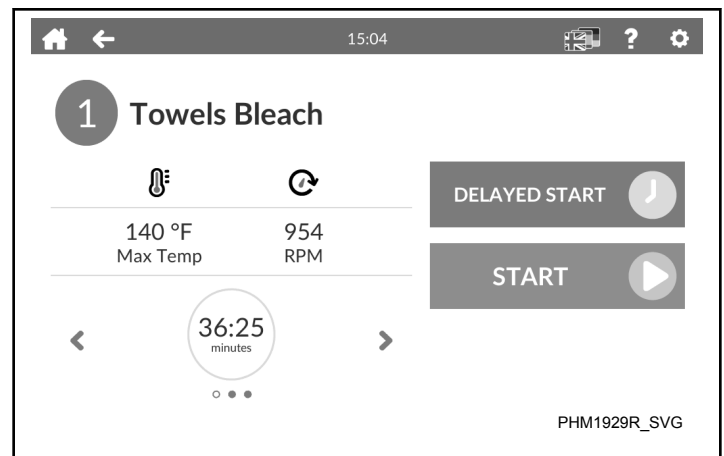

Figure 52
4. The Cycle Review Page will be displayed. Review the cycle options, and if satisfied with the chosen cycle, touch START to begin the cycle (refer to *Figure 52*). If delayed start is desired, press DELAY START and the Delay Start Page will display. Touch if you want to select a different cycle.